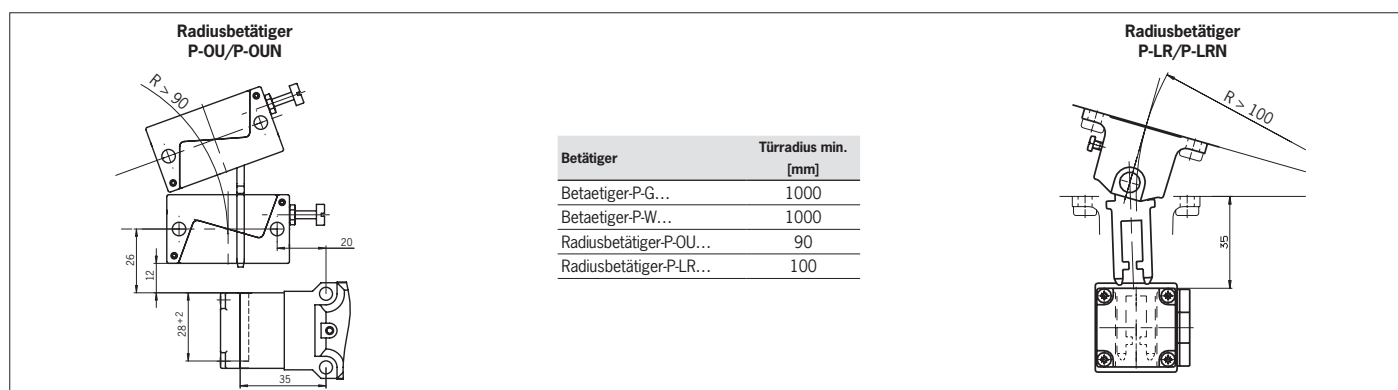

Bild 4: Minimale Türradien
- ▶ Additionally pay attention to the door radius and the mounting options (see Fig. 4).